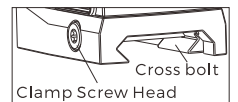

Fig 4
2. Using the included T10 Torx wrench loosen the cross bolt. Attach the sight onto the mounting rail in an appropriate position. Tighten the crossbolt to 20 INCH/lbs using a non-permanent (medium/blue) thread locker. (Fig4)